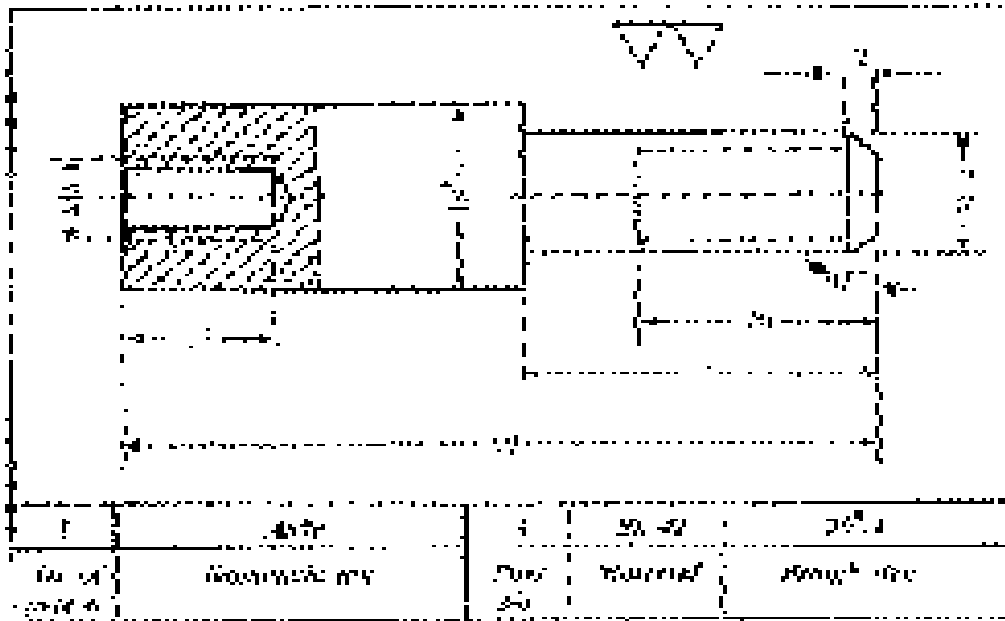

Fig. 2.5. Component drawing of lathe work.
3. Prepare a process plan for a component to be produced by using standard lathe machine as shown in fig. 2.5.